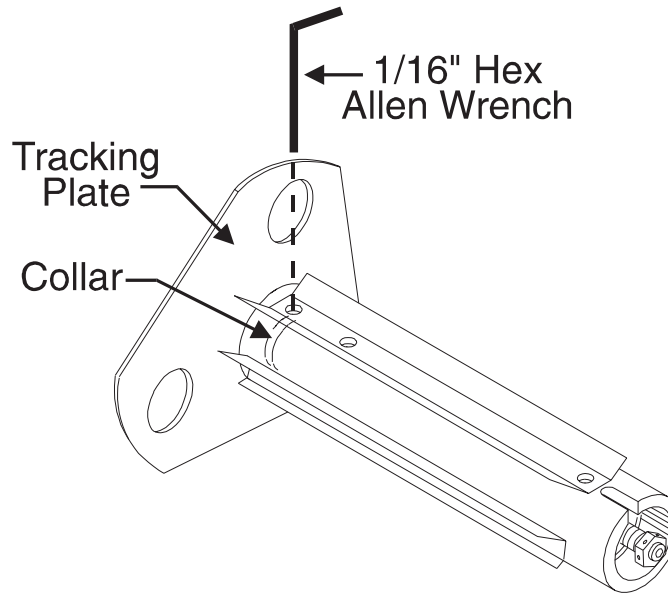

Figure 5.10 Rewind Spindle Positioning
3. If the media cannot be made to track correctly with this adjustment, check the distance from the outside of the Tracking Plate to the Main Frame. This dimension is set at the factory and should be 0.547" (13.9 mm) to 0.567" (14.4 mm). If the distance needs to be reset, refer to Figure 5.10 and proceed to step 4 below.
4. Use a 1/16 Hex Allen Wrench to loosen the two set screws in the Collar located inside the Rewind Spindle Assembly. The screws are accessible through a single hole in the Spindle Assembly, as shown in Figure 5.10. Reposition the Spindle Assembly closer to or farther from the Main Frame as required, and retighten the two collar set screws.
NOTE: If the shaft of the Ribbon Take-Up, Media Take-Up or optional Media Supply Spindle turns when attempting to turn the Adjustment Nut, refer to Figure 5.10 and insert an Allen wrench through the access hole on the inner end of the spindle and into the set screw in the shaft collar. **DO NOT TURN THE ALLEN WRENCH.** Simply hold the shaft in place with the Allen wrench while turning the Adjustment Nut.